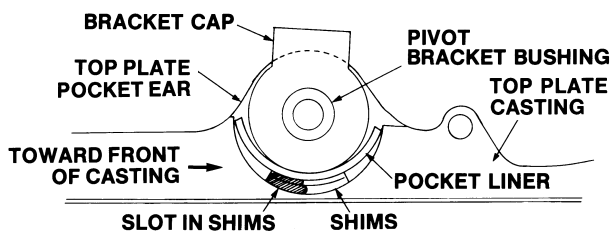

Figure 2
3. Place the thickest shims supplied in the rebuild kit into each pocket, with the slot toward the front of the casting, centering the shims in the pocket. (See Figure 2).
5. Place the new bracket bearing caps supplied into the pocket on top of the pocket liner. (See Figure 2).